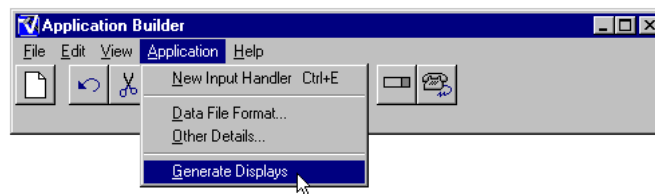

Figure 3-54 Application Menu - Generate Displays Command
47. Choose **Generate Displays** from the **Application** menu (Figure 3-54).